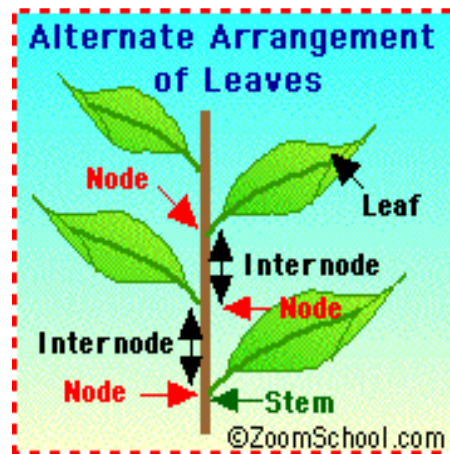

Figure 1
**ALTERNATE LEAVES OR BUDS** is a pattern in which there is one leaf (or bud) per node, and on the opposite side of the stem (not in pairs). Refer to Figure 1.
**INTERNODE** is the part of a plant's stem between two nodes is the internode - the distance along the stem between the leaves. *Refer to Figure 1.*